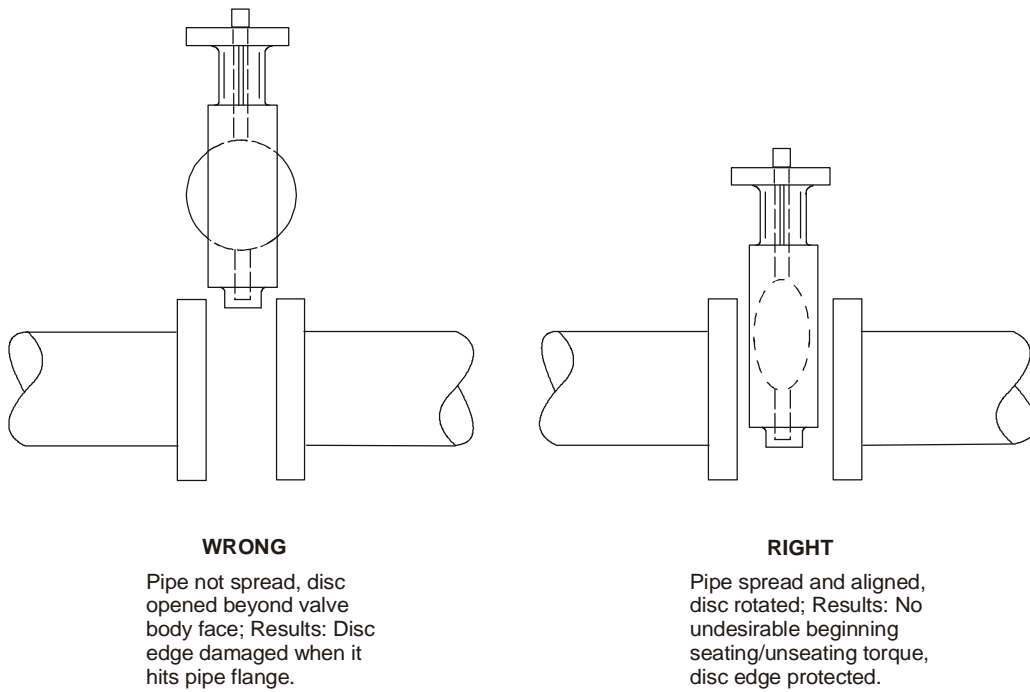

Figure 2: Flange and Disc Position
1. Align the piping and spread the flanges apart enough to allow the valve body to be located between the flanges without actually contacting the flange surfaces (see Figure 2).
1. Align the piping and spread the flanges apart enough to allow the valve bodies and tee to be located between the flanges without actually contacting the flange surfaces (see Figure 2).